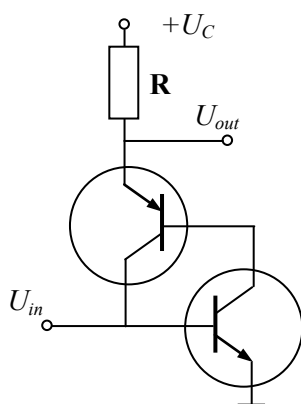

Fig. 2.46
**Latch.** Fig. 2.46 illustrates a transistor *latch*. Here, the upper transistor is a *pnp* device and the lower transistor is an *npn* device. The collector of the first transistor drives the base of the second one and backward. Because of a positive feedback, a change in current at any point of the loop is amplified and returned to the starting point with the same phase. For instance, if the bottom base current increases, the top collector current will also increase. This forces a larger base current through the upper device. In turn, this produces a larger collector current, which drives the bottom base harder. This buildup in currents will continue until both transistors are driven into saturation. In this case, the circuit acts as a closed switch.